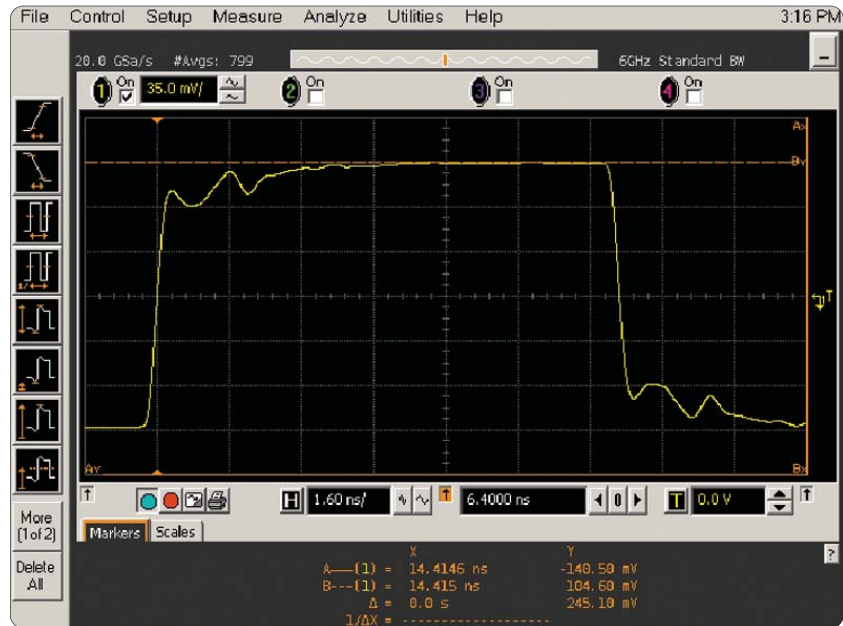

Figure 4. Step response analysis showing poor channel characteristic
Figure 4 is an example of a step response measurement on a 3.125-Gb/s system with a poor transmission channel. This step response was generated by transmitting an alternating
**Figure 5** and **Figure 6** graph the intermediate results of using the above procedure on the same transmitter used in the example of **Figure 4**. Both graphs in **Figure 5** were generated by sweeping the number of lagging